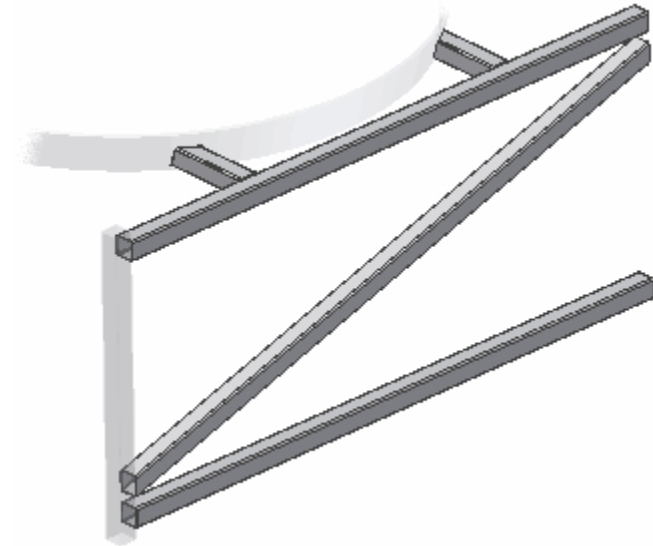

Figure 21: Frame subassembly.
9. Repeat the above step to create a right-hand support named SupportRight. Derive the same sketch and surface into the new part, and then extrude the other tube profile in the sketch to the termination surface. The Frame subassembly should match the one shown in Figure 21.